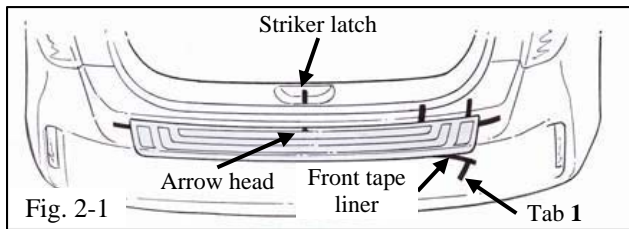

Fig. 2-1
- !** (b) Use tape tab 1. Lift up and peel back the front tape liner 50mm to 75mm (2 to 3 inches) (Fig. 2-1).
- (c) Mount the bumper protector to the front edge of the bumper. Align the center arrow to the striker latch (Fig. 2-1).
- (e) Pull tape liner strip 1 off while holding the part in position, then press firmly along the tape length (Fig. 2-1).